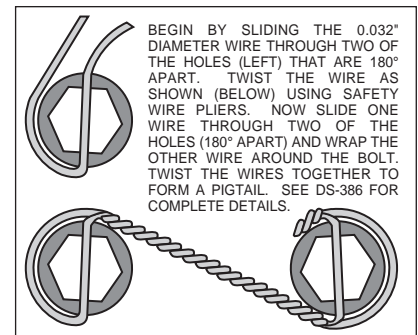

Figure 3. Safety Wire Diagram
- Apply red *Loctite*® 271 to bolt threads (2 and 3) before assembly of the caliper mounting bracket (1). Mount bracket (1) to dust face plate of spindle by screwing bolts (2) into steering arm, finger tighten only. Install bolts (3) through caliper mounting bracket (1) and steering arm, secure with washer (4) and nut (5), finger tighten only. Torque bolts (2 and 3) to 30-35 ft-lb. **NOTE:** Be sure the heads of the bracket (1) insert nuts are facing outward toward the wheel.
- Install wheel studs (6) into the hub (7). Torque to 77 ft-lb. **NOTE:** There are two five lug patterns in the hub (5 x 4.50 and 5 x 4.75). Make sure of the correct hole pattern for the correct wheel application before installing studs into hub.
- Pack the large inner bearing cone (8) with high temperature disc brake bearing grease (available from your local auto parts store) and install into the backside of the hub (7).
- Install the grease seal (9) by pressing into the backside of the hub (7).
- Attach rotor adapter plate (10) to rotor (11) using bolts (12). Apply red *Loctite*® 271 to the threads and torque bolts (12) to 25 ft-lb. For an added measure of security, the bolts may be safety wired using standard 0.032 inch diameter stainless steel safety wire as shown in Figure 3. Please refer to Wilwood's data sheet DS-386 for complete safety wire installation instructions. **NOTE:** Dished side of adapter plate (10) should face hub (7). The counterbored side of the steel rotor (11) should face away from the adapter plate (10).